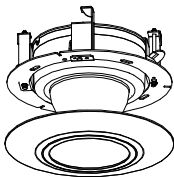

Figure 2-53 Assemble the Decorative Rim
1. Drill screw holes on the wall according to the dimensions of wall-mounted camera and insert four M6 expansion screws into the screw holes, as shown in Figure 2-53.